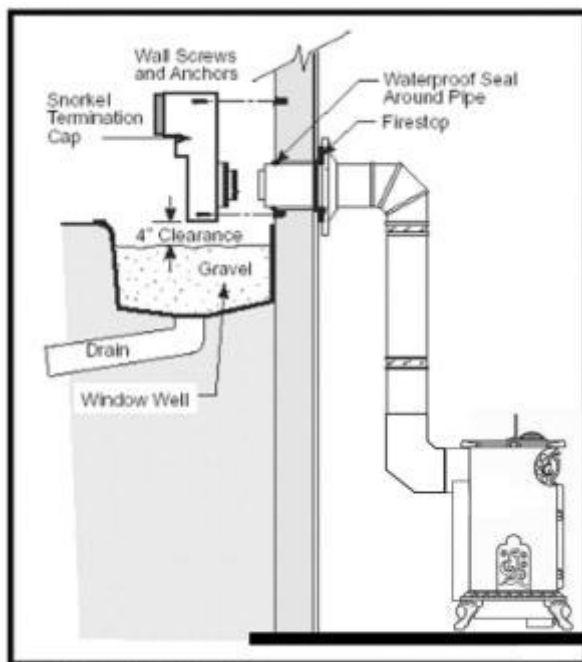

Fig. 34 Snorkel kit installation.
Install Snorkel Kit when it is not possible to meet the required vent termination clearances of 12" (305mm) above grade level. The snorkel kit will allow installation depth of down to 7" (178mm) below grade level. The seven inches is measured from the center of the horizontal vent pipe as it penetrates the wall. **If the venting system is installed below grade, a window well must be installed with adequate and proper drainage.** (Fig. 34)
2. Remove soil to a depth of approximately 16" (400mm) below the base of the snorkel. Install a window well (not supplied). Refill the hole with 12" (305mm) of coarse gravel and maintain a clearance of at least 4" (100mm) below the snorkel. (Fig. 34)